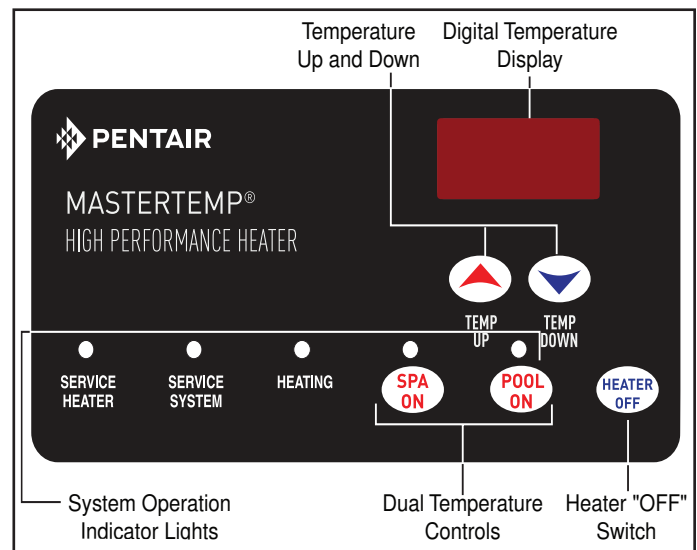

Figure 2.
12. Set the thermostat to desired setting (**NOTICE:** Set point must be above actual water temperature or burner will not fire). See "OPERATING the CONTROL PANEL" (see Figure 2 and page ix).